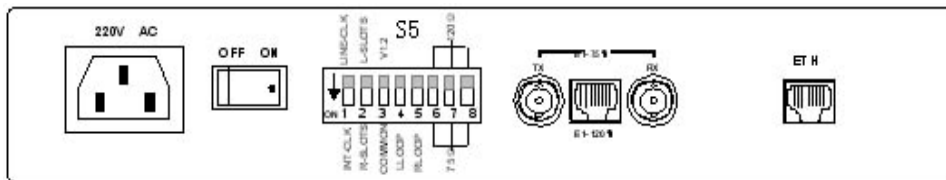

Figure 3 AC input rear panel of FE1&10/100BASE-T Bridge
- The AC input rear panel of FE1&10/100BASE-T Bridge is shown in figure 3.
The others are the same as in figure 3.
See figure 3 about the description of AC input rear panel of FE1&10/100BASE-T bridge for the functions of every component of the small panel.